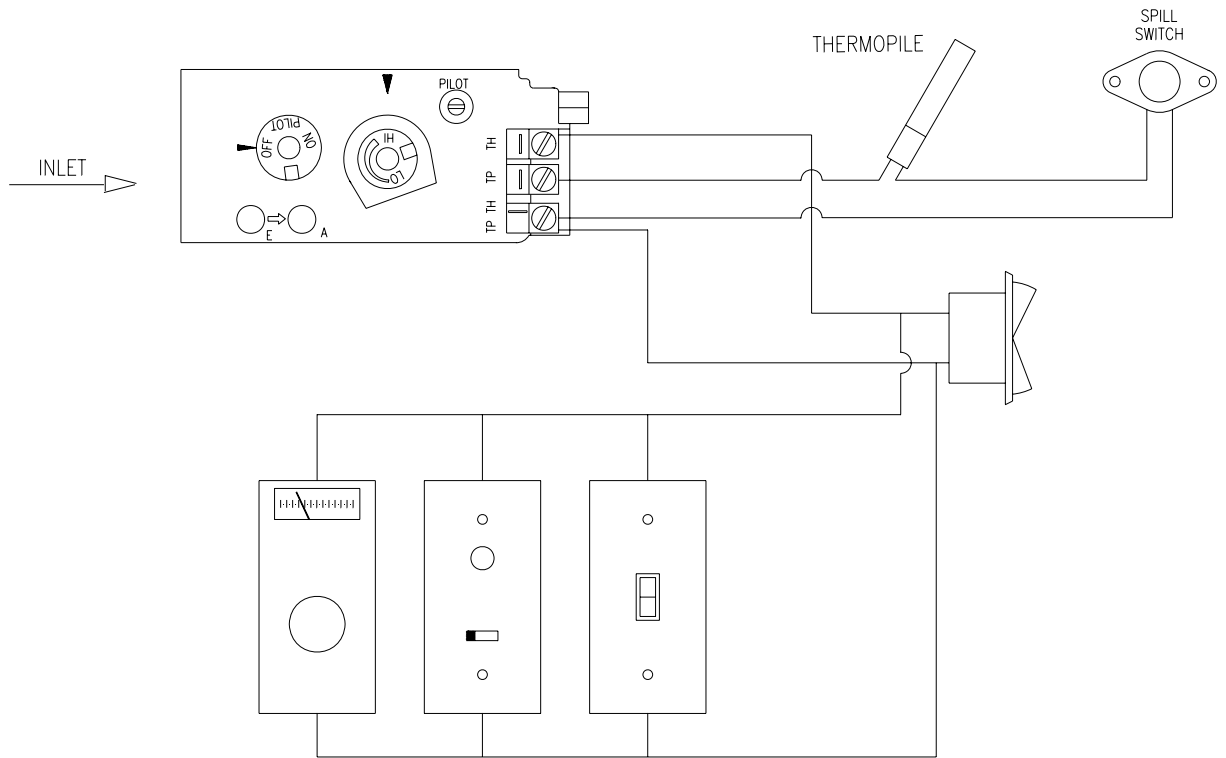

Figure 10
- 2a) After the insert is installed and the gas line hooked up, solder a female spade connector to each wire and join them to the male connectors provided on the rear of the burner switch (see Figure 10), or